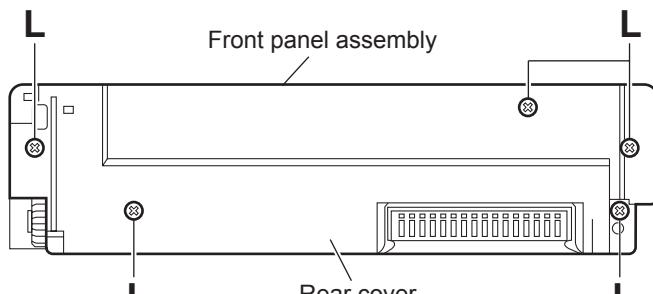

Fig.10
(See Figs.10 to 12)
- (1) Remove the five screws **L** attaching the rear cover on the back side of the front panel assembly. (See Fig.10.)